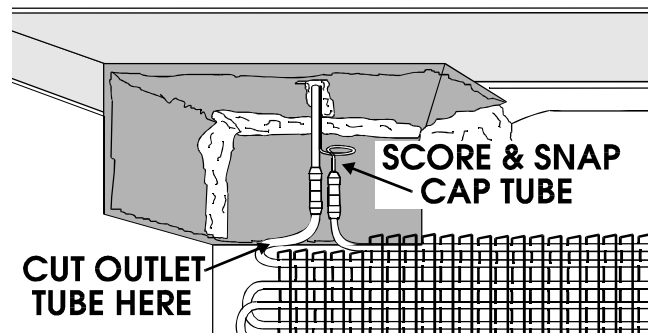

Fig. 6
- Score the capillary tube with a file and snap it apart. (Fig. 6)
- Cut the aluminum evaporator tubing approximately two inches below the aluminum to copper transition at the outlet with a pair of diagonal cutters. (Fig. 6)